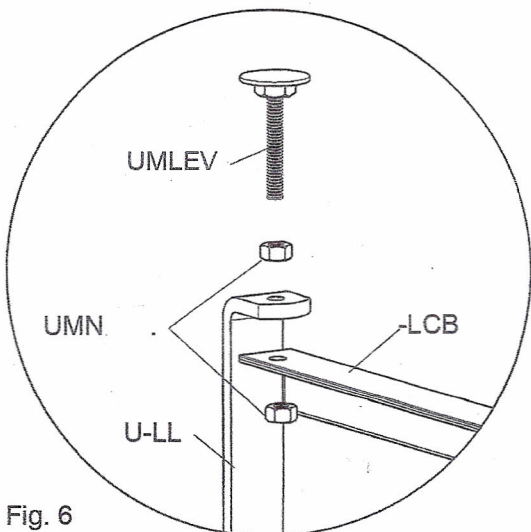

Fig. 6
14. Attach leg connector bar (-LCB) using the adjustable leg levellers (UMLEV) and two **nuts** (UMN) as shown in figure 6.